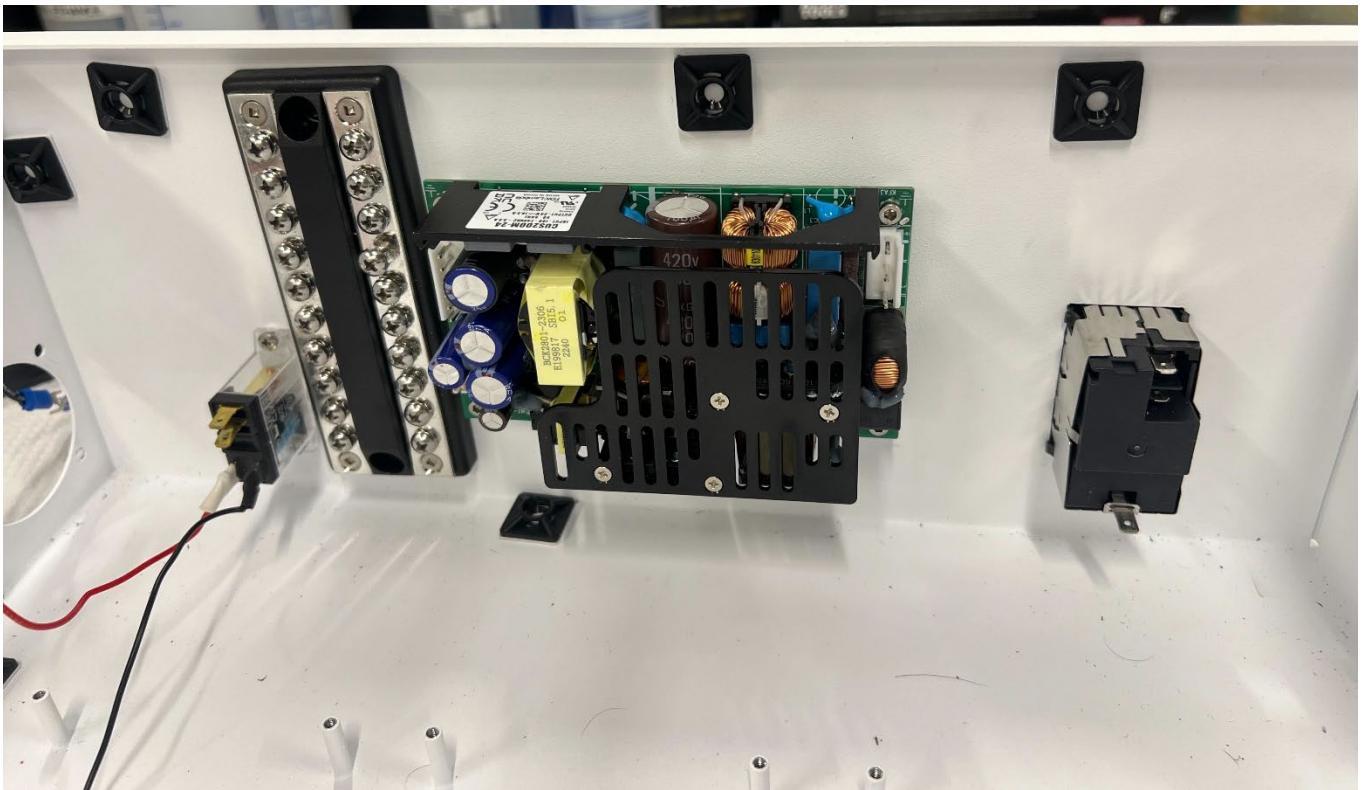

Figure 7: Mounting locations for AC Power Input Module, DC Power Supply, Terminal Bus Block, and Relay
3. Using the mounting holes in the back, screw in the DC Power Supply. The Terminal Bus Block should be attached between the Power Supply and the Relay mounting holes with double-sided VHB tape. Refer to Figure 7 for placement references. Note: If desired, you can drill mounting holes in the enclosure to align with the mounting holes on the Terminal Bus Block.